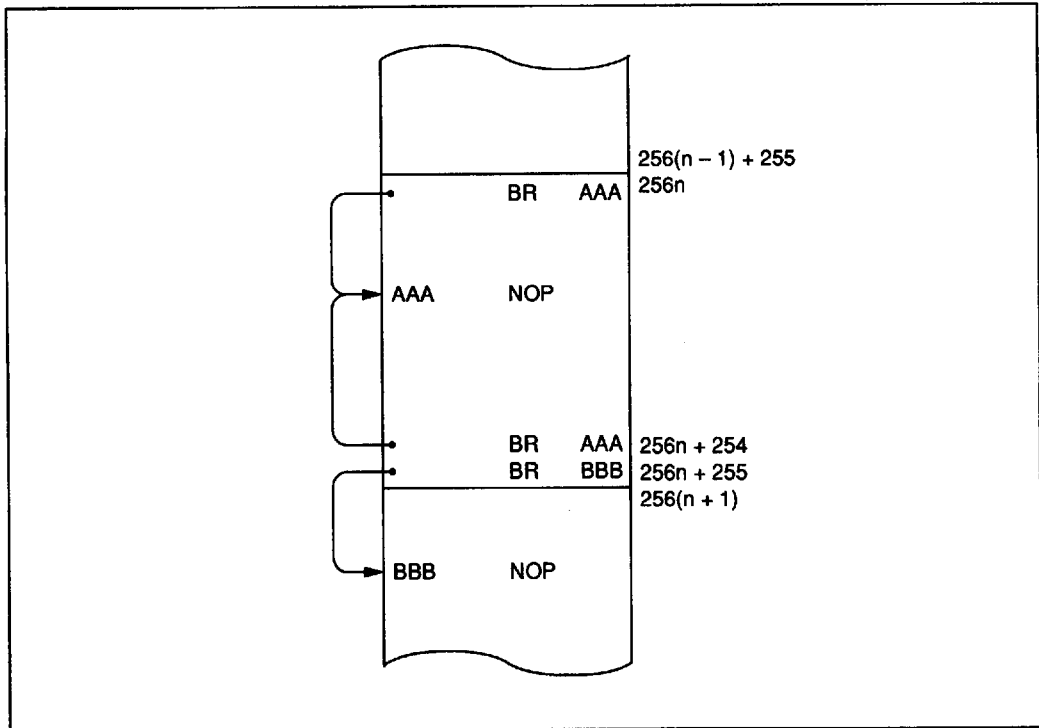

Figure 67 Branching when BR Instruction is on a Page Boundary
**Current Page Addressing Mode:** The MCU has 64 pages of ROM with 256 words per page. A program can branch to any address in the current page by executing the BR instruction. This instruction replaces the eight low-order bits of the program counter (PC7-PC0) with eight-bit immediate data. If the BR instruction is on a page boundary (address 256n + 255), executing that instruction transfers the PC contents to the next physical page, as shown in figure 67. This means that the execution of the BR instruction on a page boundary will make the program branch to the next page.